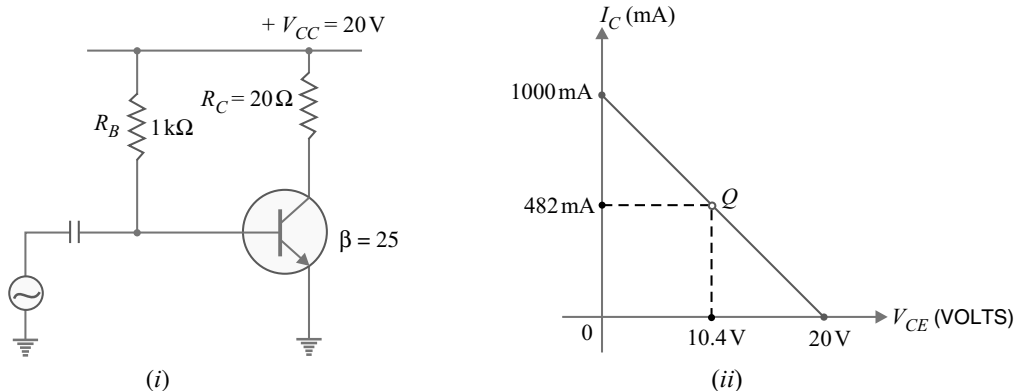

Fig. 10.14
**Example 10.10.** Calculate the (i) output power (ii) input power and (iii) power efficiency of the amplifier circuit shown in Fig. 10.14 (i). It is given that input voltage results in a base current of 10 mA peak.
**Solution.** First draw the d.c. load line by locating the two end points viz.,  $I_{C(sat)} = V_{CC}/R_C = 20 \text{ V}/20 \Omega = 1 \text{ A} = 1000 \text{ mA}$  and  $V_{CE} = V_{CC} = 20 \text{ V}$  as shown in Fig. 10.14 (ii). The operating point *Q* of the circuit can be located as under :